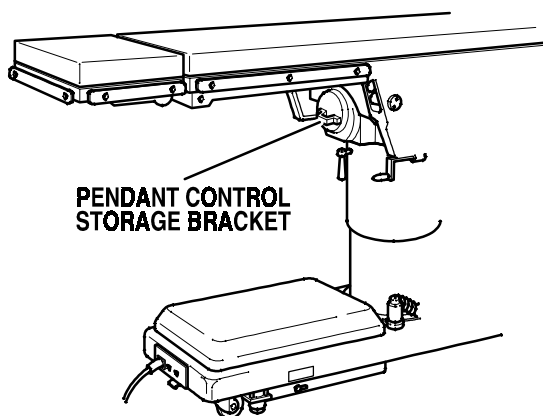

Figure 3-12. Pendant Control Storage Bracket
j. Pendant Control Storage. When the Pendant Control is not in use, it should be stored on a convenient side or end rail. A bracket is located under the table top for storage of the Pendant Control when the table is not in use and during cleaning. See figure 3-12.